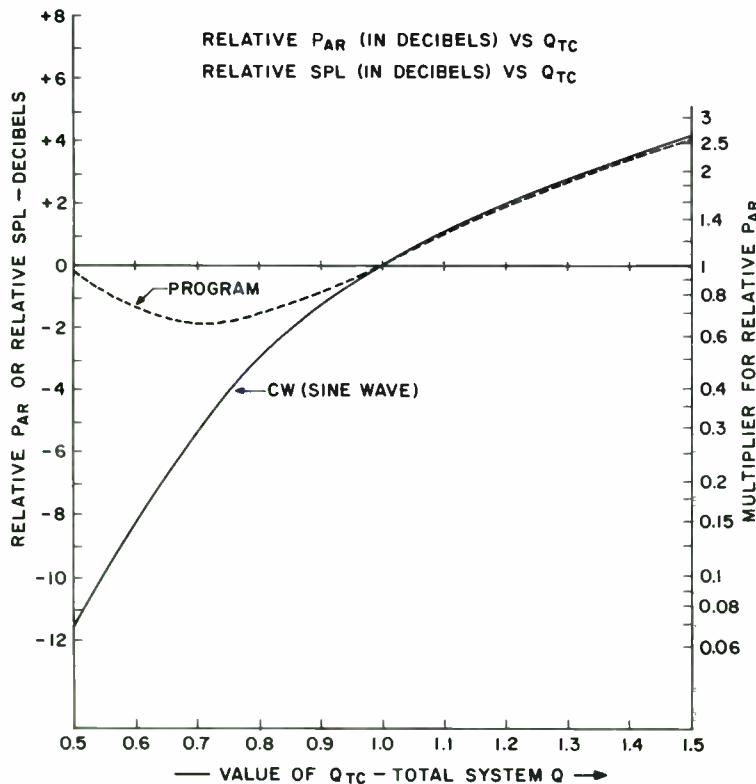

FIGURE 2: Effects of alignment on acoustic power
Small gives a curve of k_p versus Q_{TC} . I have shown how f_3 varies with Q_{TC} , and V_D is "fixed" for my driver. Thus, you can compute the relative value of P_{AR} (CW) and normalize it to $Q_{TC}=1$. This result is shown in Fig. 2. Again, Table 1 gives the equations to calculate P_{AR} (CW) at $Q_{TC}=1$. Note that determining the actual value of P_{AR} requires additional driver parameters. In the equations shown in Table 1, these are:
Figure 2 also represents relative maximum sound pressure level (SPL), as this is directly related to P_{AR} . Table 1 shows how to approximate the actual SPL level at $Q_{TC}=1$. Because the SPL might mean more to the homebuilder than acoustic watts, Fig. 2's ordinate axis is in decibels. Thus, you can find the SPL at any value of Q_{TC} by finding the relative SPL value from Fig. 2 and adding it to the SPL at $Q_{TC}=1$ obtained from the equations in Table 1. The multiplier for relative P_{AR}
is also shown in Fig. 2 for those who prefer not to work in decibels.
Figure 2 shows that low- Q_{TC} alignments have very low sine-wave power limits. Small has pointed out, however, that the frequency at which maximum displacement occurs ($f_x \text{ max}$) is below f_3 when Q_{TC} is less than 1.1. For enclosures where f_3 is
below any frequency at which you will require major output power, you can raise the maximum power limit to what Small calls the program maximum acoustic power [$P_{AR} (P)$]. This is also plotted in Fig. 2; the equation is given in Table 1 for $Q_{TC}=1$. Again, program acoustic power can be expressed as SPL, allowing easy decibel
Using closed box alignments with high effectiveness values will produce a small enclosure with a good f_3 value for the driver under consideration, but effectiveness does not represent any optimization of the closed box system. While Fig. 2 shows that the power capability will be good, Fig. 1 indicates that the peak is starting to rise, making transient performance suspect.